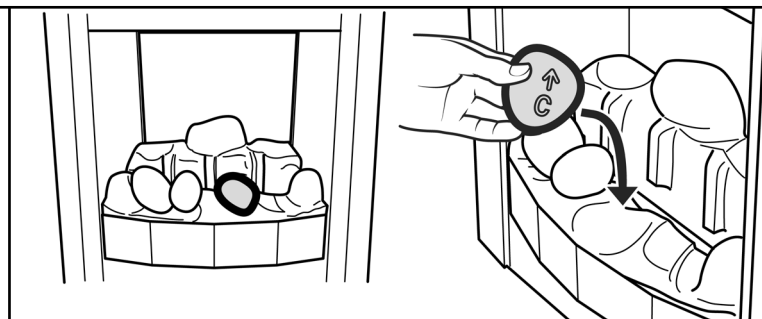

Figure 8.
5. Hold pebble 'C' upright with the arrow pointing to the top. Place pebble "C" on top of the front base pebble. It should lie against the moulded pebble to its left. (See figure 8).